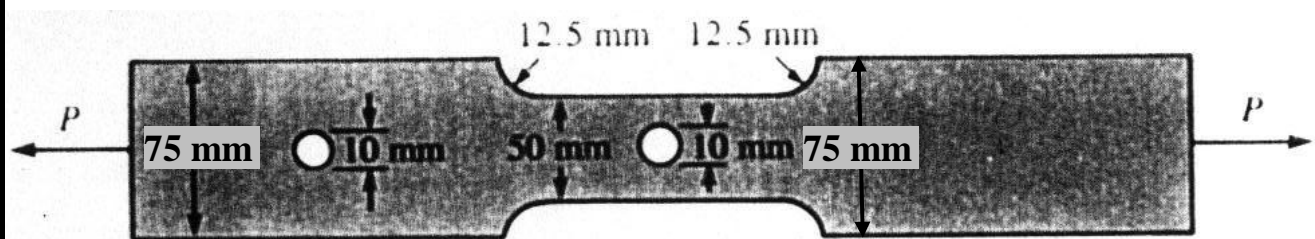

Fig. P5
- 5) Determine the maximum allowable force  $P$  that can be applied on the plate (thickness = 10 mm) shown in Fig. P5 if the failure tensile stress is 150 MPa, and a factor of safety of 1.5 is needed. [Secs. 4.7] (15 pts.)